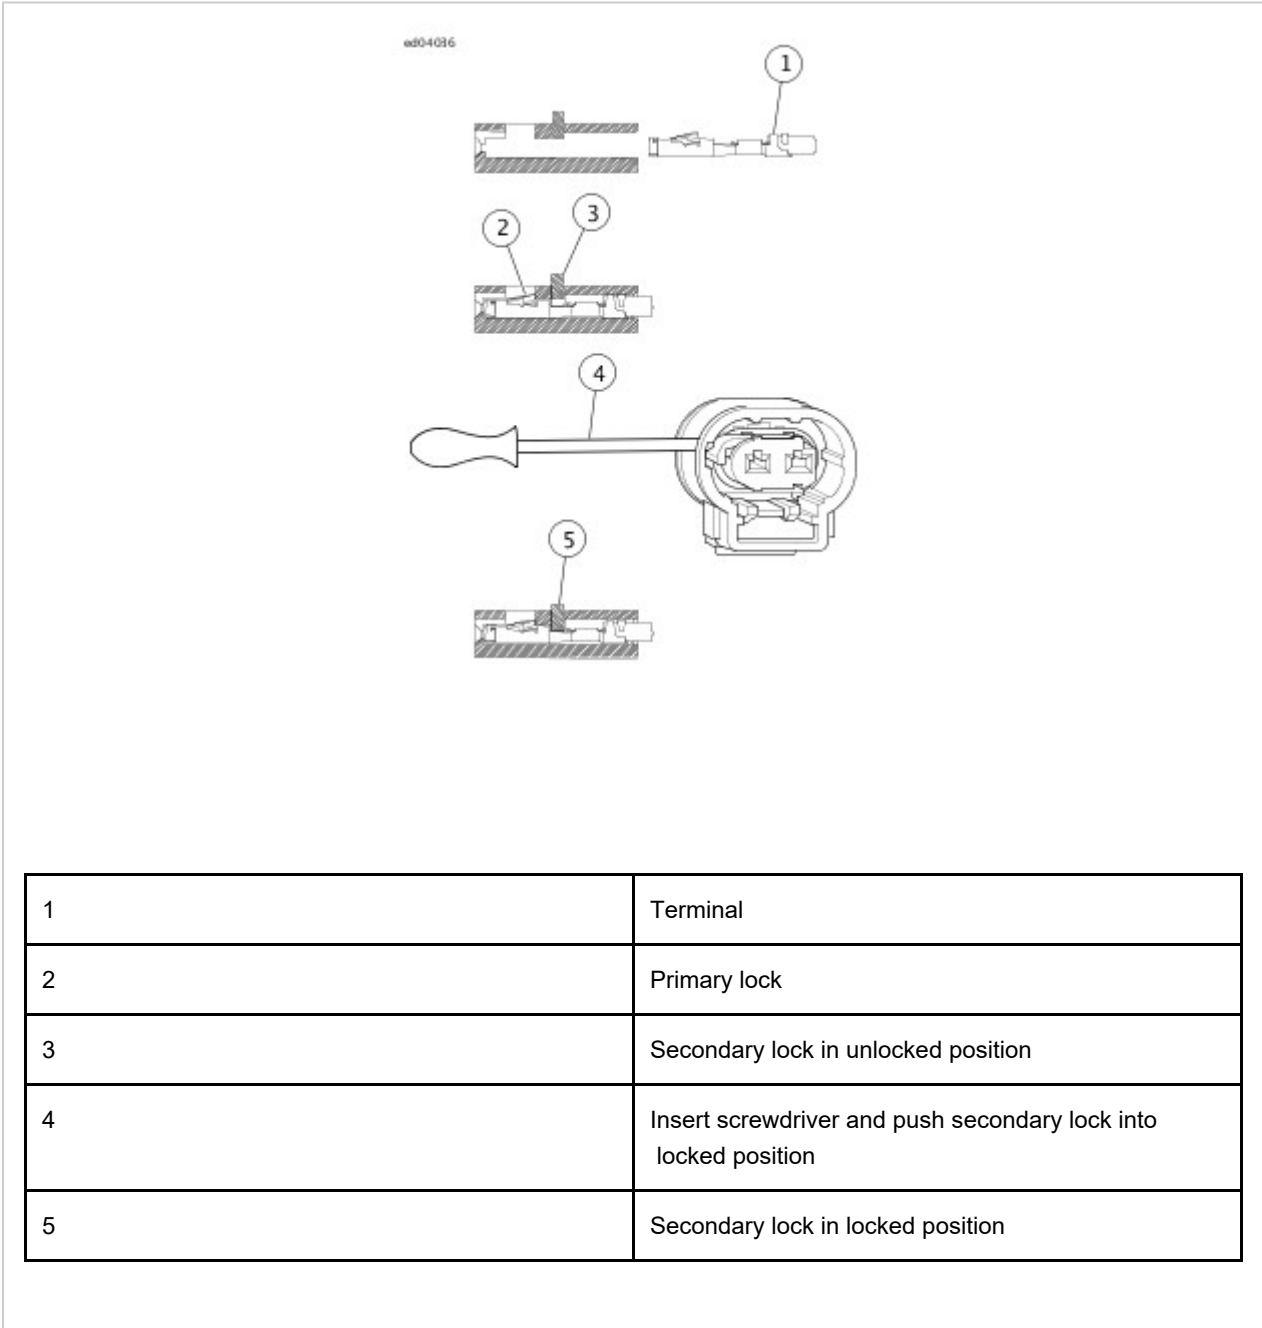

Figure 4. Installing Terminal
1. See **Figure 4**. Insert female terminals into receptacle connector until an audible click is heard or lock is felt